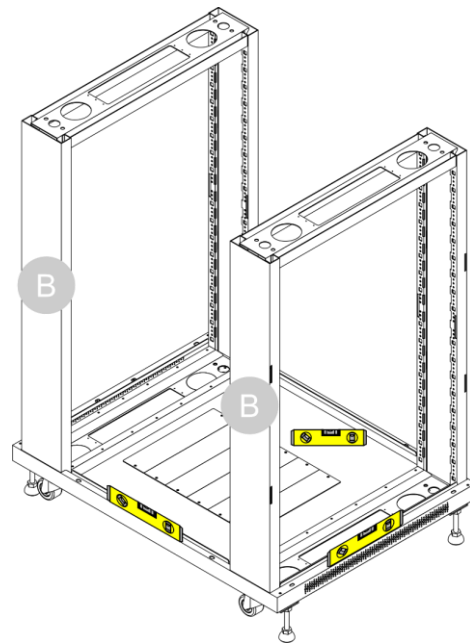

Fig. 26
- 10) Make sure that the cabinet is completely leveled in all directions, as shown in Fig. 26. Adjust the **adjustable feet (I)** if necessary. See step 08.